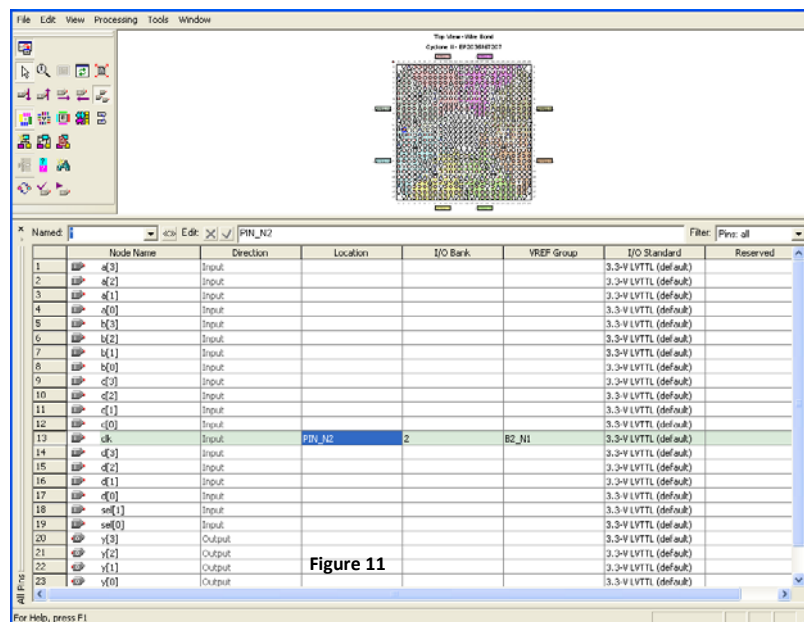

Figure 11
a) Select **Assignments > Pins**, which opens the window of figure 11.
b) As an example, the pin for *clk* was already assigned in figure 11. Double-click the left mouse button in the white area under Location. A pin number can be selected from the pull-down menu, or its name can be typed in (for example, for PIN_N2, only N2 or n2 needs to be typed). Since the clock is a special signal, a specific type of pin should be assigned to it, identified as Dedicated Clock in the pin list. Select, for example, N2.